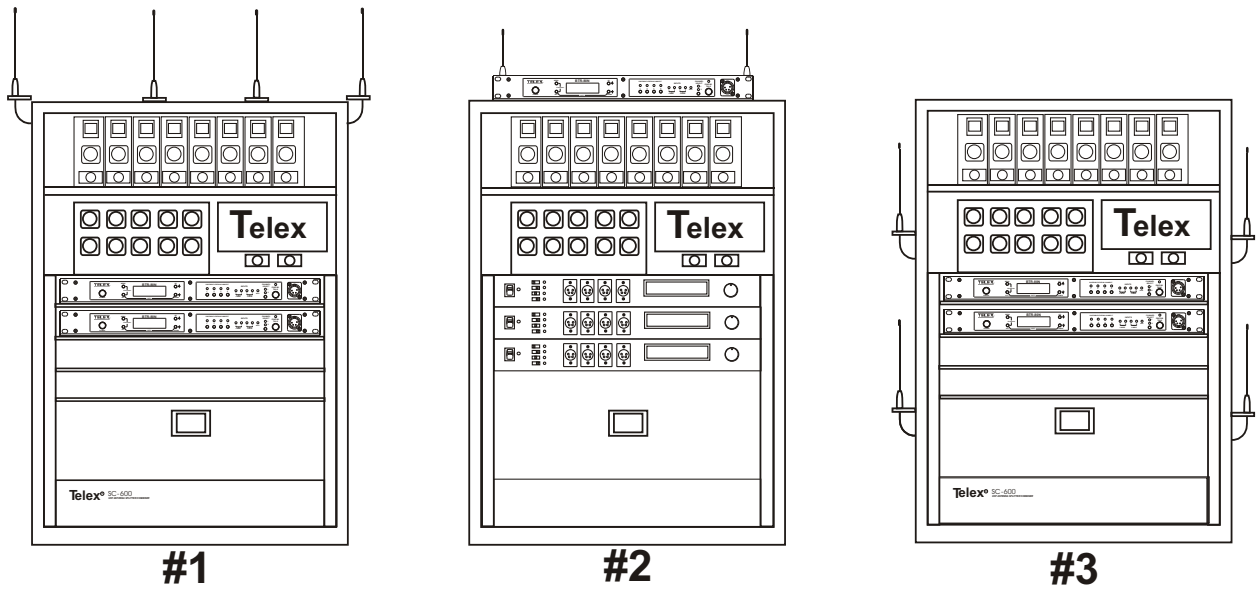

Figure 5-8
**DO NOT** - mount the base station 1/2-wave antennas on, or next to metal, such as beams, walls with metal studs, equipment racks, etc. This also applies to the antennas when assembled directly to the Base Station. This will “detune” the antennas which can result in noise or loss of RF signal at the Base Station, see Figure 5-8.